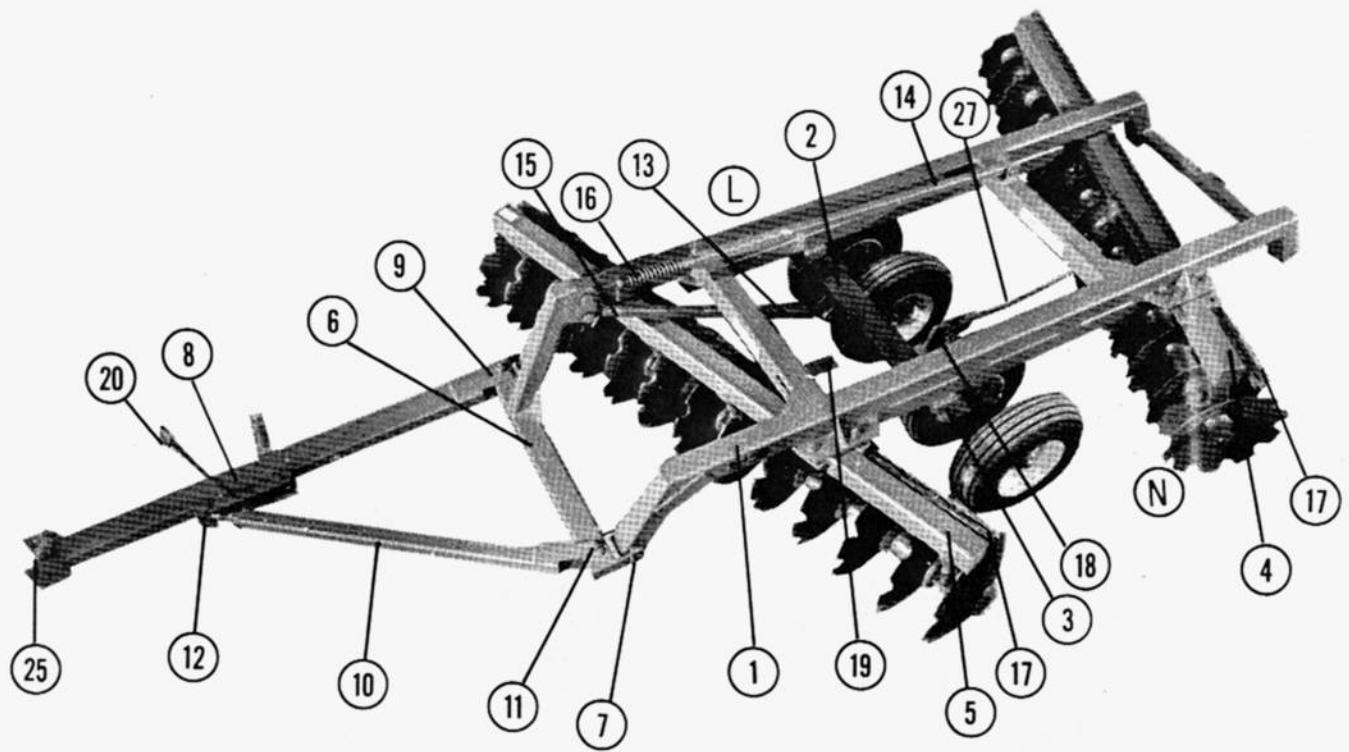

Figure 1
1. Hydraulic Cylinder and Hoses: (Refer to Figure 1) A standard 8" stroke double acting hydraulic cylinder is required to lift disc. Two 18 ft. hydraulic hoses are needed to allow full offsetting and turning without hose damage.
2. Angle Changing: (Refer to Figure 1) To change angle. Raise disc on wheels until discs are clear of ground. Remove bolt(21) and loosen the three remaining bolts. Slide gang bar forward or backward as desired. Replace bolt and tighten all bolts securely. For ordinary conditions set both front and rear gangs in next to maximum angle. Increase angles as required to suit conditions.
4. Offsetting The Hitch: (Refer to Figure 1) This unit is designed to trail straight behind the tractor. Minimum side draft will be obtained when the hitch is in line with outside beam of main frame. If more adjustment is required screw hitch side arm eye bolt(12) to desired position, then retighten jamb nut to reduce pressure on eye bolt thread.
5. Hitch Height: (Refer to Figure 1) The hitch pole should always be as near level as possible when discing. Flapper hitch(25) can be raised or lowered to proper tongue level of tractor. (Not adjustable on Series 250)
A. Front to Rear: (Refer to Figure 1) With disc raised and hitch to tractor, adjust bottom fore-aft eye bolt(15) until main frame is level. Adjust fore-aft spring lock(16) until spring is snug. The top spring should be under some compression when discing, but should never be compressed solidly. NOTE: In general use as little pressure as possible when discing.
7. Transporting: (Refer to Figure 1) Disc may be transported without using hydraulic cylinder. Place the rod(27) through the hole in anchor on frame(1) and place clevis over transport block. Raise the disc until the cylinder has reached the end of its stroke. Insert pin in clevis and adjust transport rod nut until there is about $\frac{1}{8}$ " between nut and transport anchor. Release pressure on hydraulic cylinder and remove. **CAUTION:** Extreme care should be taken not to collapse the cylinder too much with the transport rod in transport position.
1. **To Install Wheel Carriage and Wheels:** (Refer to Figure 1) Place wheel carriage(2) under the main frame(1) and attach frame with pins(3). Install 5/16 x 2 lock bolts in pins and tighten lock nuts securely. Install wheels on to hubs with wheel bolts provided and tighten securely.
2. **To Attach Gang Bars to Frame:** (Refer to Figure 1) Bolt rear gang bar(4) to main frame(1) in center set of offsetting holes and in next-to-maximum angle with $\frac{3}{8}$ x 3 1/2 bolts. Install leveling washers on top of angling plates on long side of disc(L). Install leveling washers between gang bar and angling plates on narrow side of disc(N). Bolt front gang bar(5) to main frame in next to maximum angle with $\frac{3}{8}$ x 3 1/2 bolts. Install leveling washers same as rear gang.
3. **To Attach Hitch Bridle to Frame:** (Refer to Figure 1) Place bridle(6) at front of frame(1) and attach with pins(7). Install lock bolts and tighten nuts securely.
4. **To Attach Hitch Pole to Bridle:** (Refer to Figure 1) Attach main hitch pole(8) to bridle(6) at lead corner(9) with 1 x 6 bolt. Attach hitch side arm(10) to opposite side of bridle(11) with 1 x 6 bolt. Join hitch pole and side arm with 1" pin at adjustable eye bolt(12). Tighten all bolts securely.
5. **To Attach Fore-Aft Leveling Assembly:** (Refer to Figure 1) Install short tube(13) to wheel carriage with 1" pin. Install long tube(14) with 1" pin. Slide short fore-aft eye bolt(15) into bottom tube(13) (pinned to wheel carriage) and pin to bottom hole of bridle mast(6). Slide long fore-aft eye bolt c/w spring and washers into top tube(14) (attached to main frame) and pin to top hole of bridle mast(6).
6. **To Attach Scrapers:** (Refer to Figure 1) Attach scraper bars(17) to gang bars (4 & 5) with carriage bolts provided. Attach scrapers to scraper bar with clamps and bolts provided use care to adjust scrapers close to discs but not rubbing.
7. **To Double Wide Right and Left Hand Offsets:** (Refer to Double Wide drawing). Set together following regular instructions except item No. 4 - to attach hitch pole to bridle - the hitch pole is attached to the opposite side from the lead corner and the side arm is attached to the lead corner with 1 x 6 bolt. Set left hand disc(1) stationary and pull right hand disc(1) along side leaving front gang of right hand disc behind front gang of left hand disc. Attach rear spreader bar(5) with pins. Attach front spreader bar(6) with pins. Join right hand main hitch pole to left hand main hitch pole(3) with 1 1/4" pin(7). Adjust swivel flapper with 1 x 6 bolt for proper direction(8).